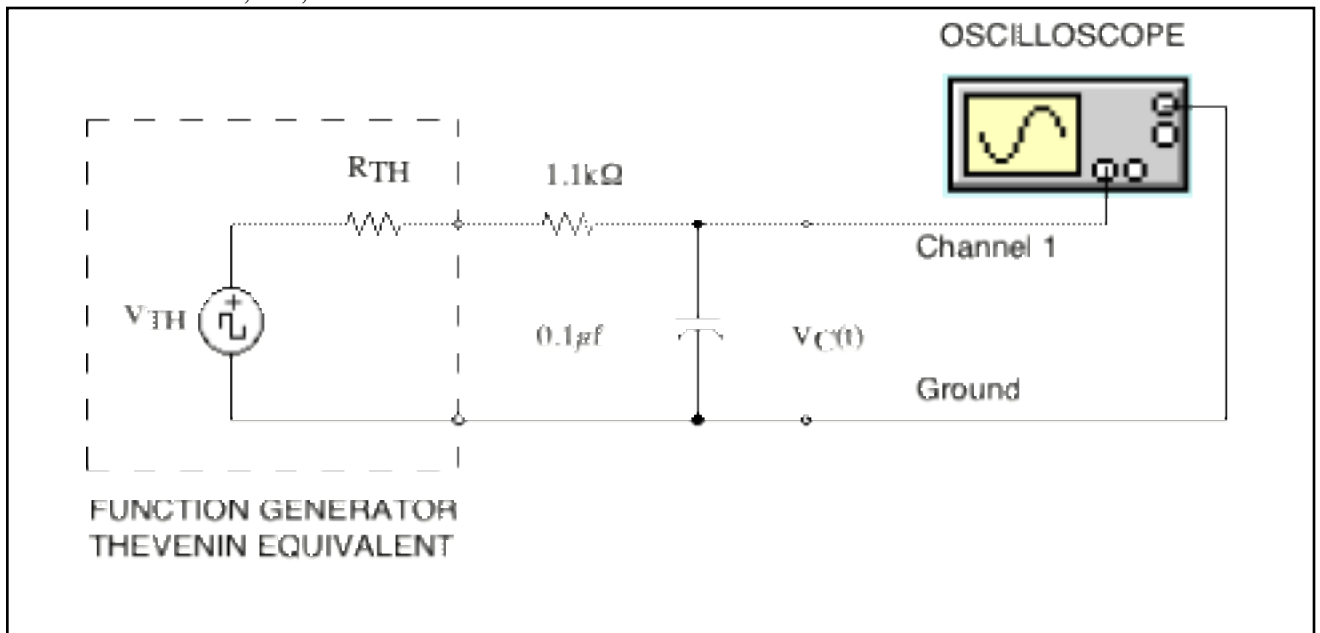

Figure 1. Driven RC Circuit (z =impedance in ohms)
The equation describing the output $v_C(t)$ of the circuit of Figure 1 is of the form:
Determine the output resistance of the laboratory function generator, R_{TH} . This value can be determined from the HP instrument specifications available on the manufacturer's web page (note that HP spun off their Test and Measure unit as Agilent). If you cannot find this data you may assume it is 50Ω but should state that assumption in Data Table 1. Record R_{TH} and your data source in Data Table 1. The Thévenin equivalent model of the function generator is shown in Figure 1.
1. Build the circuit shown in Figure 1 on your protoboard. **Before constructing the circuit** measure and record the EXACT value of your resistor and capacitor. Use a DMM to measure the value of your resistor. Record this value in Data Table 2. Use the digital capacitance meter, available at lab station 12-03 near the resistor drawers, to measure the capacitance of the capacitor you use in your circuit. Also record this value in Data Table 2.